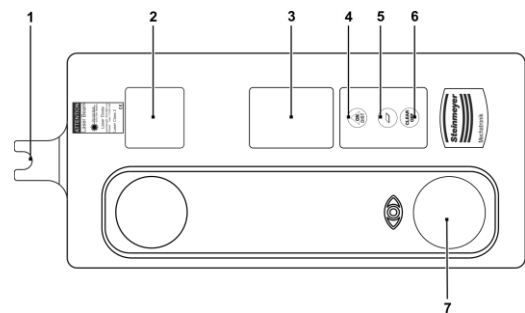

Fig. 4
- Slide the FM4-LO on the measuring bar until the aimed contact wire appears in the crosshairs under the viewing aperture (7, Fig. 4).
- Press the ON/DIST button (4, Fig. 4). The laser beam emerges vertically from the glass pane (2, Fig. 4). Normally the laser point is visible on the catenary and in the crosshairs under the viewing aperture. Laser glasses increase the visibility of the red laser point.
- Press the ON/DIST button again. The measured value appears on the display (3, Fig. 4).
It is possible to change the measurement units (m, ft, in). Press therefor the measurement unit button for 2 seconds (5, Fig. 4).
- Press the ON/DIST button (4, Fig. 4). The laser beam emerges vertically from the glass pane (2, Fig. 4). Normally the laser point is visible on the catenary and in the crosshairs under the viewing aperture.
- Read off the catenary stagger on the measuring bar scale at the measuring mark (1, Fig. 4).
- Press the ON/DIST button (4, Fig. 4). The laser beam is deflected horizontally through the mirror attachment.
- Press the ON/DIST button. The measured value is shown on the display (3, Fig. 4).
- Press CLEAR- / OFF button (6, Abb. 4) for 2 seconds to switch off the FM4-LO.